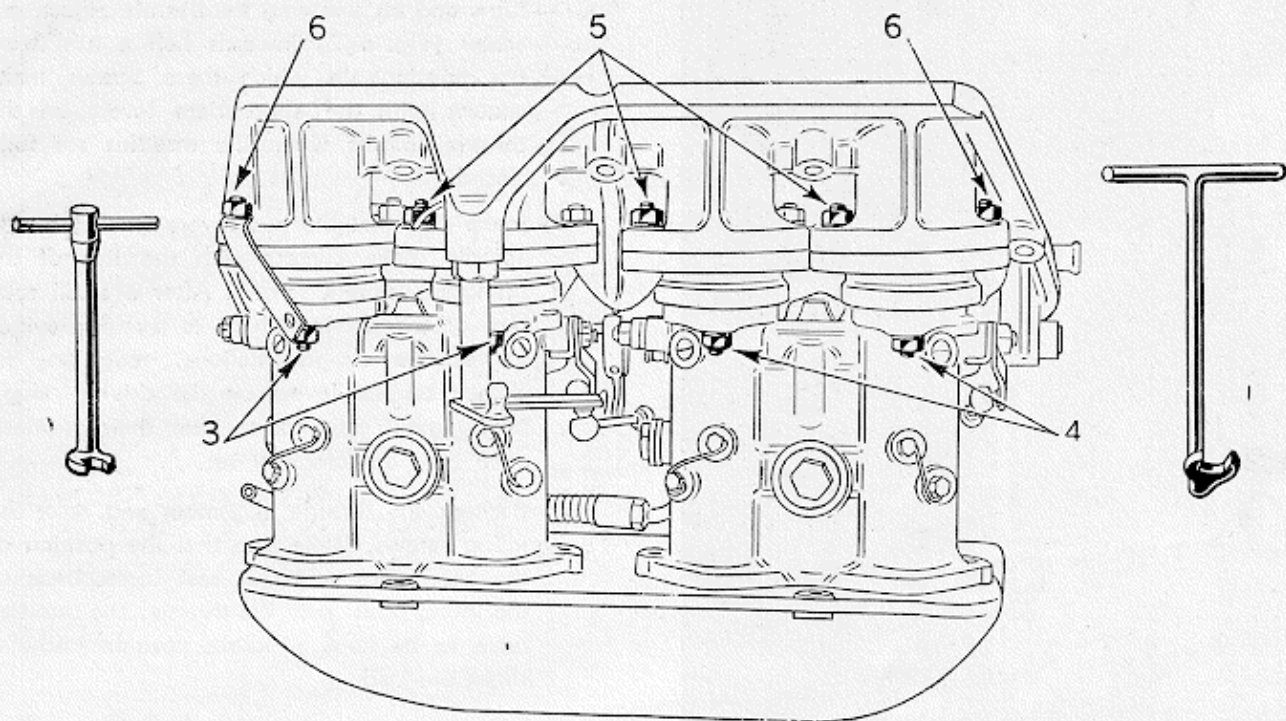

Fig. 139. Fuel feed system seen from below, showing the special spanners 6121.23026 and 6121.23029 needed to remove the nuts 3, 4 and 5
Radiator end: When removing the top nuts securing the carburettor to the flexible joints (item 7, Fig. 140), the special spanner 6121.23027 must be used. When removing the lower nuts (item 3, Fig. 139), the special spanner 6121.23029 must be used.
Steering-wheel end: When removing the top nuts securing the carburettor to the flexible joints (item 8, Fig. 140) the spanner 6121.23028 must be used. When removing the lower nuts (item 4, Fig. 139) use spanner 6121.23029.
When removing the lower nuts (5) securing the manifold to the flexible joints (Fig. 139) the special spanner 6121.23026 must be used.
When removing the lower nuts (5) securing the manifold to the flexible joint (Fig. 139) and the bolts (9) securing the manifold to the cylinder head (Fig. 140) the 12 mm wrench and the 14 mm, 100 mm long, offset spanner must be used.